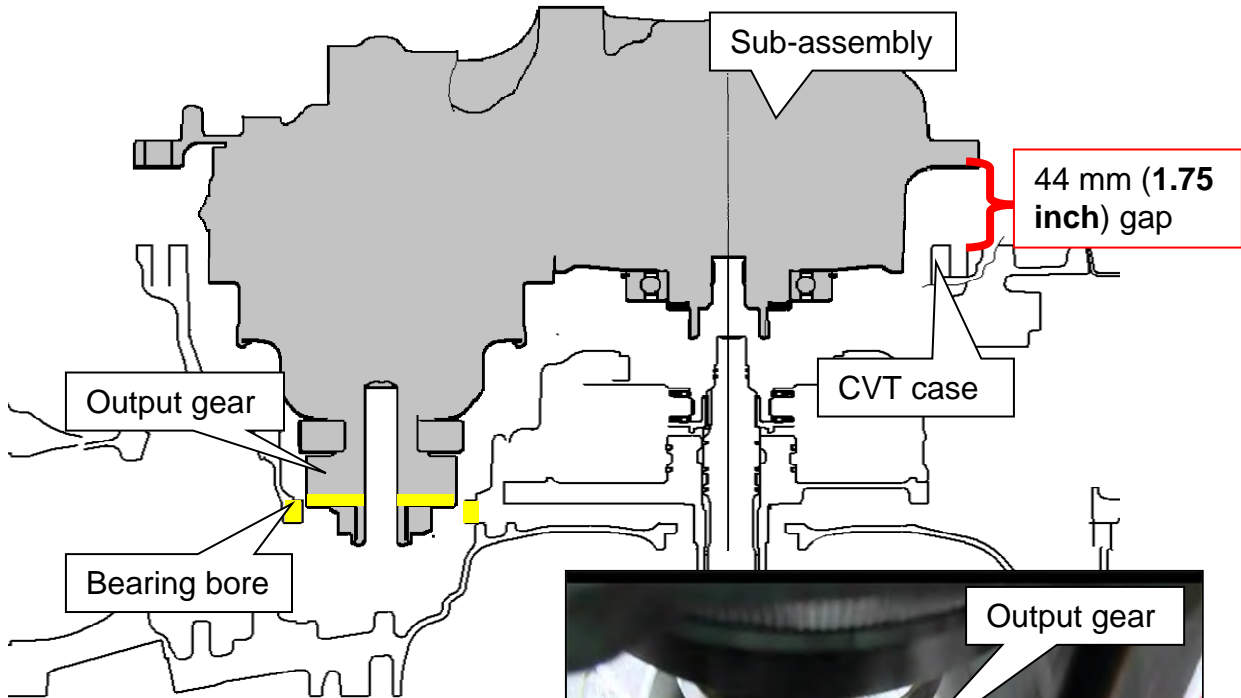

Figure 32F
- If the sub-assembly will not lower any farther than 44 mm (1.75 inch) the output gear has not cleared the bearing bore (Figure 32F).